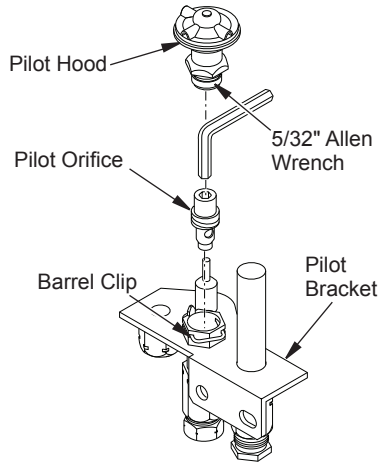

Figure 50 - Converting Pilot
1. Wait five (5) minutes to clear out any gas. Smell for any gas odor, especially near the floor. If any gas odor is present, STOP! See *For Your Safety Read Before Lighting* on page 24.
7. Remove pilot hood by pulling up until it disengages from barrel. Do not remove the retainer clip (see Figure 50).